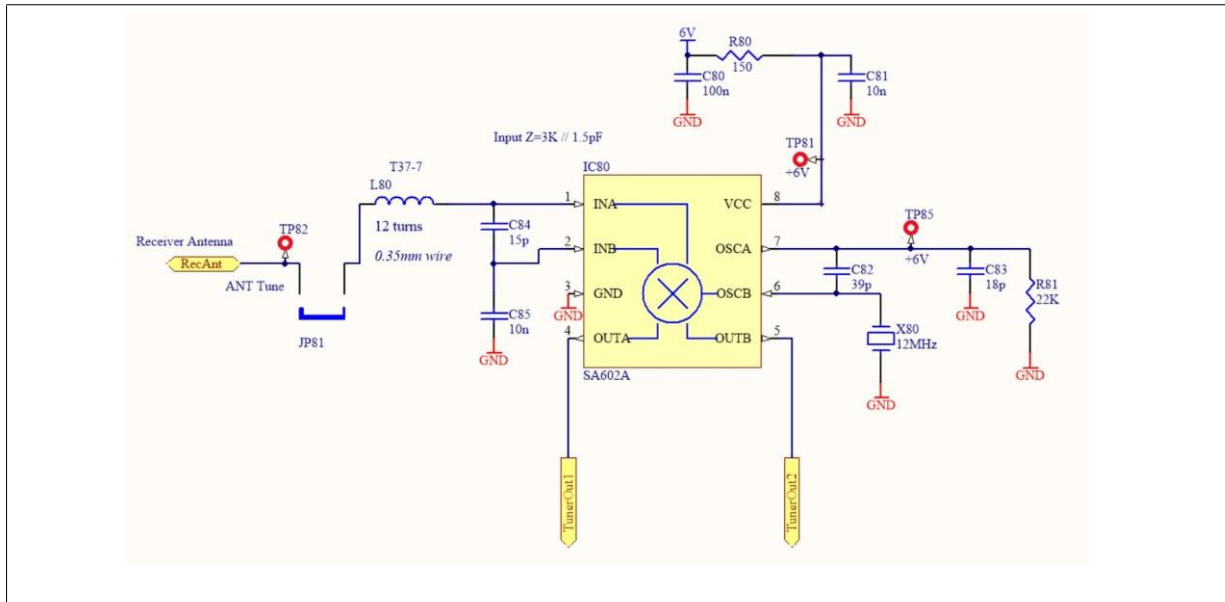

Figure 4: Receiver mixer schematic diagram.
- Install and solder IC80, the receiver mixer. Make sure that pin 1 gets installed into the rectangular shaped pad on the PCB. Note that all other pads are oval shaped. This mixer converts 27.000 MHz signal to 15.000 MHz. The pin OSC_B of the mixer chip has a negative input resistance at high frequencies, if small capacitors (C82 and C83) are connected at pins OSC_B and OSC_E . When a quartz crystal resonator at 12.000 MHz is connected to this pin as shown in Fig. 4, an oscillator at 12.000 MHz is obtained.